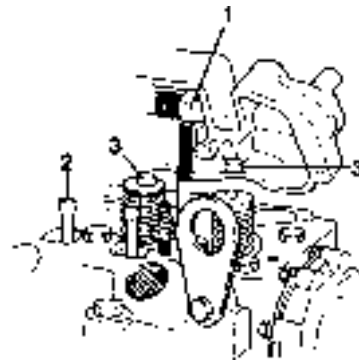

Fig. 13. Dismantling of rocker mechanism (MD2040)
18. Release the nuts from the rockers' bearing brackets. Remove the rocker mechanism (1, Fig. 13) and pull rods (2). Remove the valve caps (3, MD2040) from the valve stem.